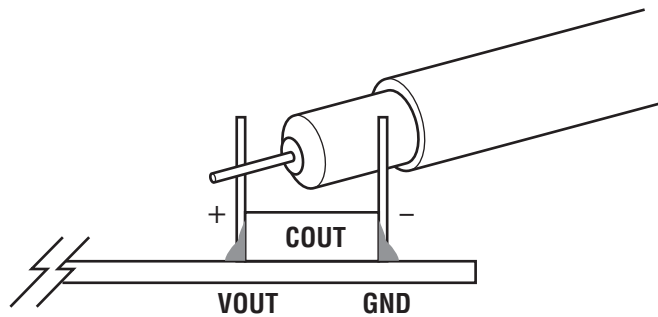

Figure 2. Scope Probe Placements for Measuring Input or Output Ripple
- Once the input and output voltages are properly established adjust the loads within the operating range (0A to 1A max) and observe the output voltage regulations, output ripple voltages, switch node waveforms and other parameters. Refer to Figure 2 for proper input/output voltage ripple measurement.
**Note 1:** To measure the input/output voltage ripple properly, do not use the long ground lead on the oscilloscope probe. See Figure 2 for the proper scope probe technique. Short, stiff leads need to be soldered to the (+) and (-) terminals of an output capacitor. The probe's ground ring needs to touch the (-) lead and the probe tip needs to touch the (+) lead.